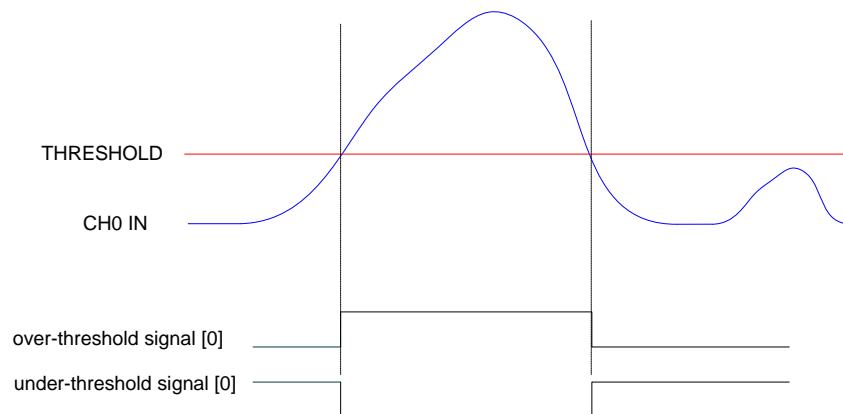

Fig. 9.11: Channel over/under threshold signal
- an *over/under-threshold signal* (see **Fig. 9.11**). This signal can be programmed to be active (i.e. "1") as long as the input pulse is over the threshold or under the threshold (depending on the trigger polarity bit at register address 0x8000).